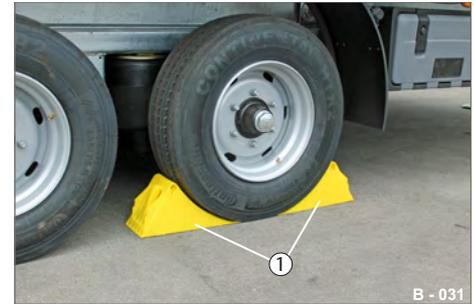

Fig. 36 Wheel chocks positioned
- ▶ If necessary, place the wheel chocks (Fig. 36/1) under the wheels of the fixed axle. The trailer has an additional safeguard against rolling away.